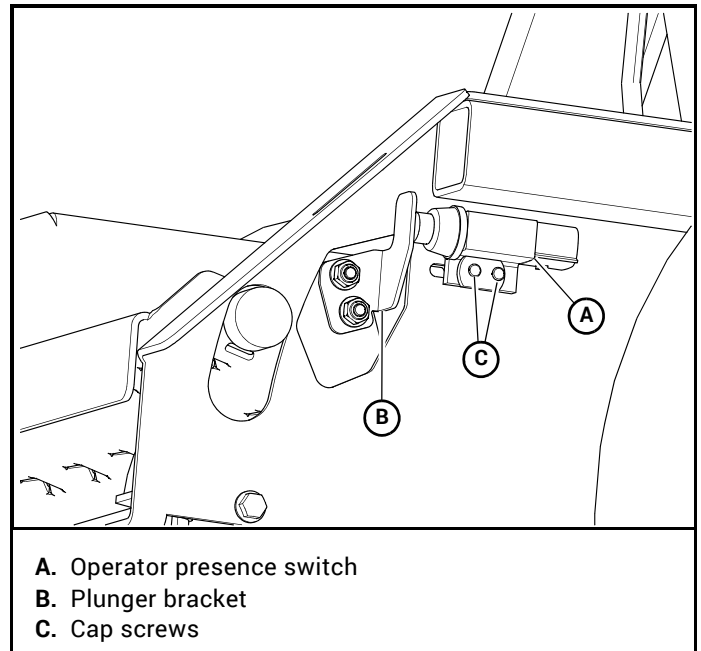

Figure 4-7
- Loosen the hardware holding the operator presence switch in place. Figure 4-7
- Adjust the operator presence switch forwards or backwards as necessary. Figure 4-7